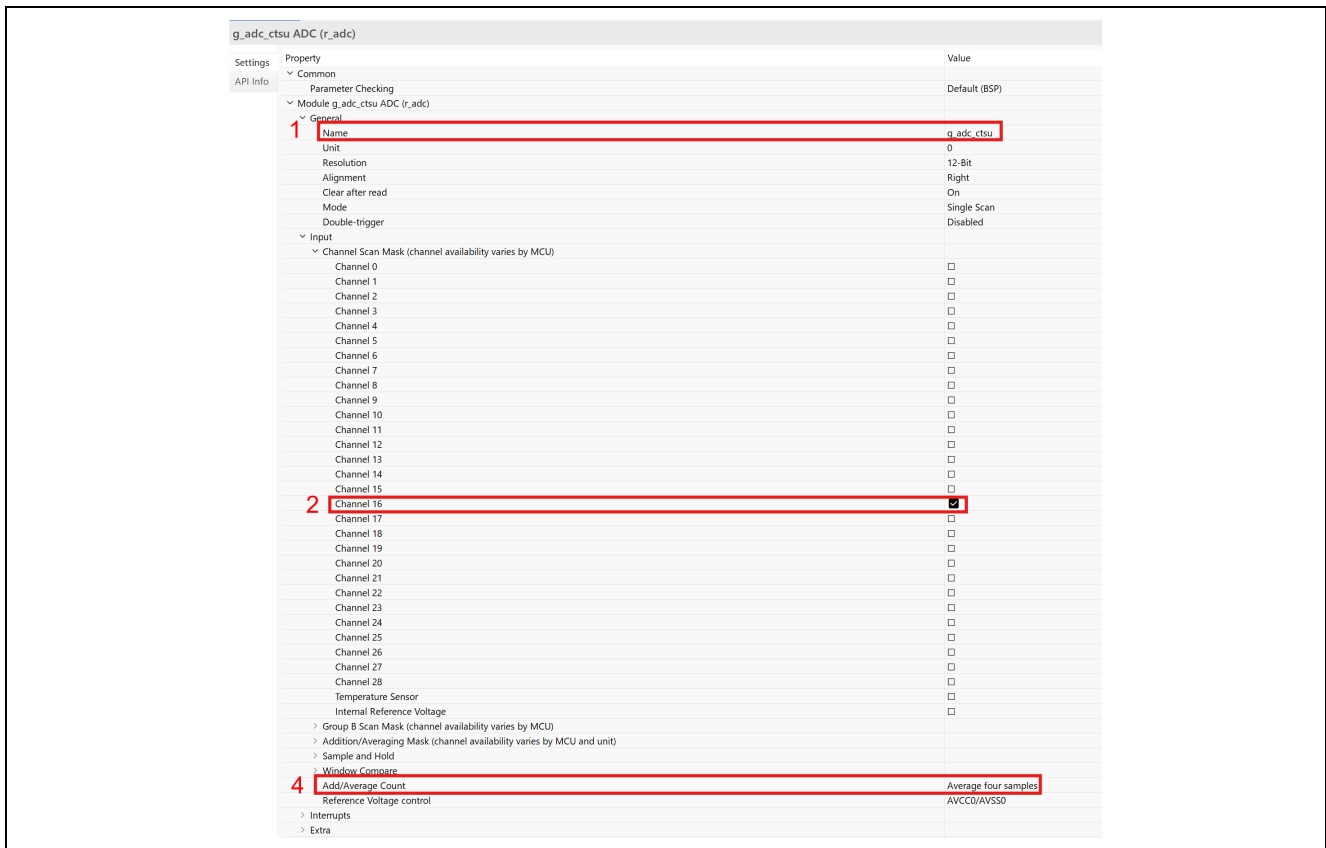
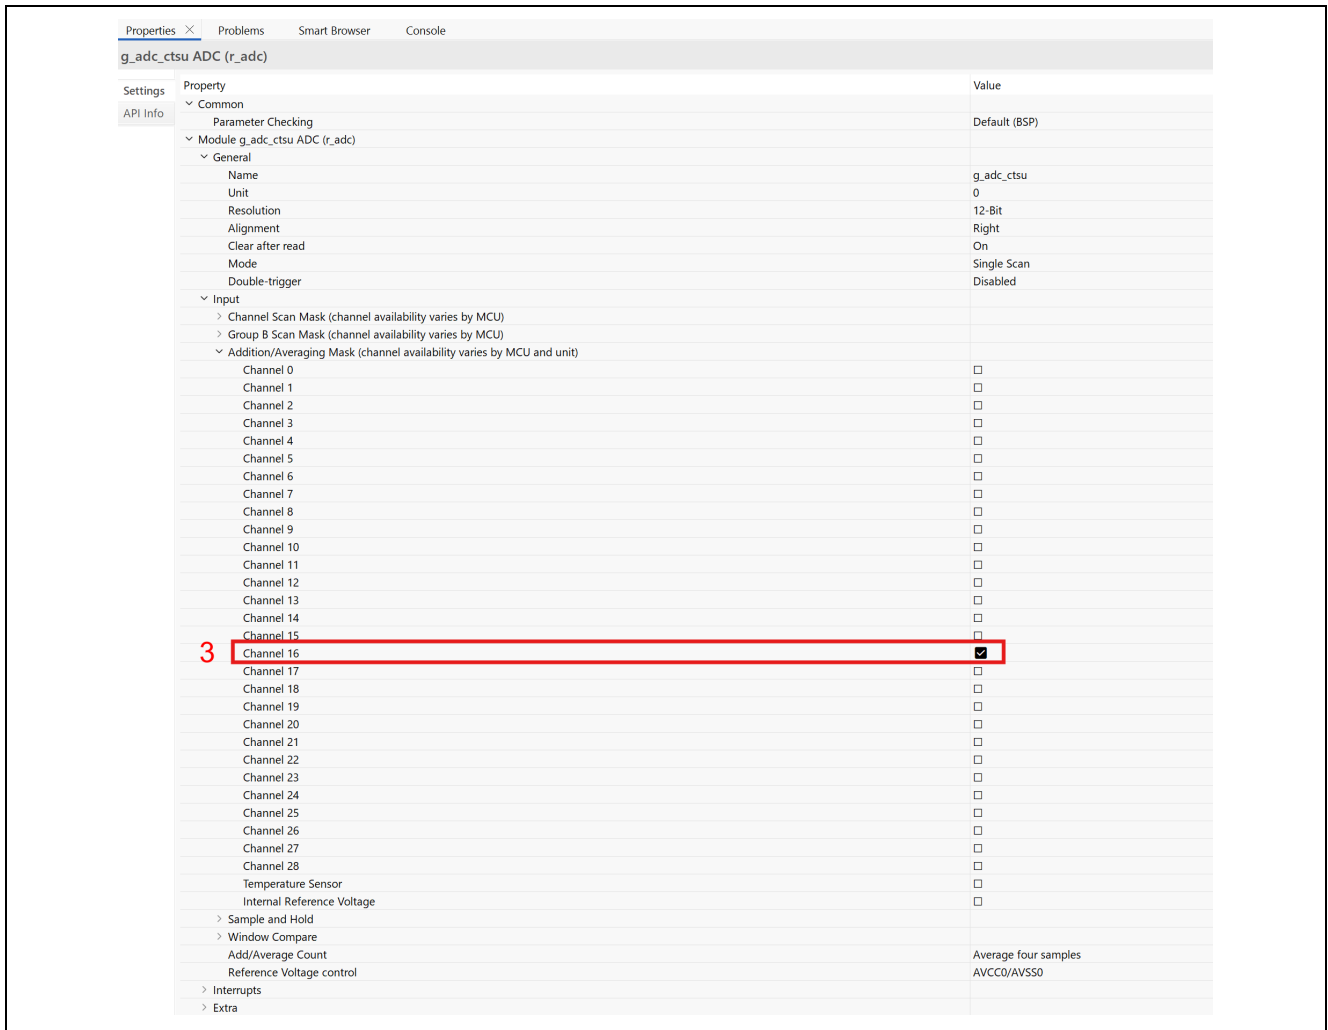

Figure 6-7 Configure "g_adc_ctsu" (RA2E1, RA2L1, RA4L1)
Figure 6-8 Configure "g_adc_ctsu" Addition/Averaging Mask (RA2E1, RA2L1, RA4L1)
10. If you are using an RA2L1 or RA4L1, select “g_adc0 ADC” and click [Properties] at the lower left. As shown Figure 6-7 and Figure 6-8, change the following settings.